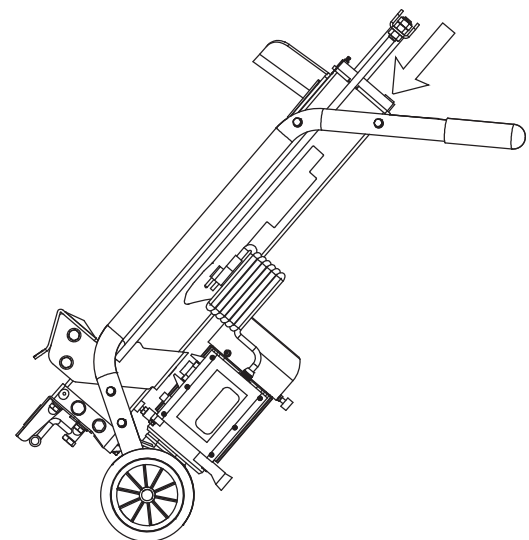

Figure 10
4. Turn the log splitter on the motor side. **(SEE FIGURE 10)**